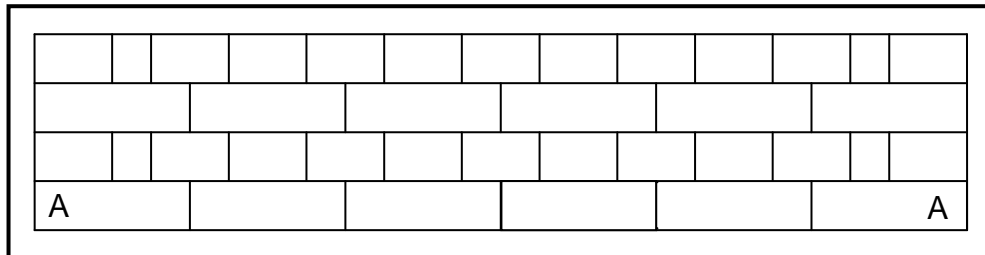

FIGURE 3.1
- 3.1 FIGURE 3.1 below shows the front elevation of a brick wall. Study the drawing and answer the questions that follow.
- 3.1.2 If the size of ONE brick used in FIGURE 3.1 is 220 x 110 x 75 mm, calculate the total height and length of this brick wall. (4)